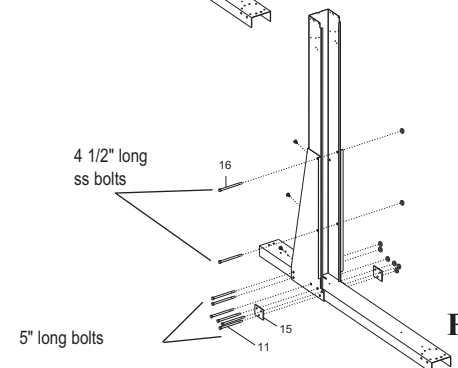

Fig. 14
D) All holes should be lined up at this point. Bolt the components together as shown in the diagram. Use 5/16" x 5" long bolts and 5/16" nuts for the channels, and 5/16" x 4 1/2" long stainless steel bolts for connecting the gussets to the uprights. Remember to include the three-hole washer at the fronts of the gussets. If these washers are left off your pool will break! See Fig.14 for visual instructions.